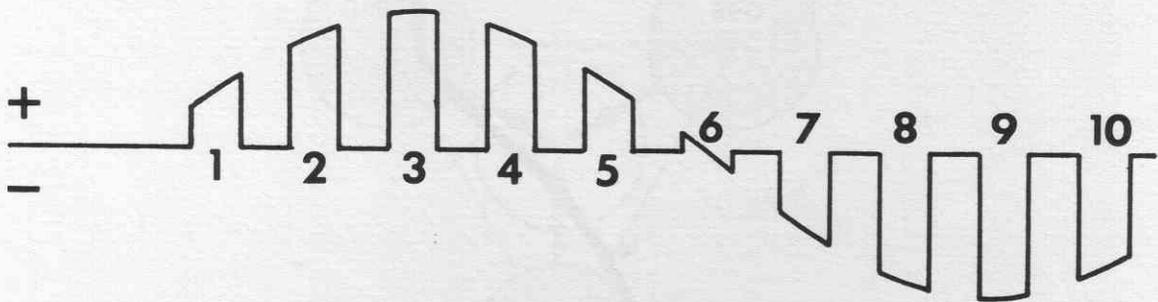

Figure 56. R-Y Amplifier Output as Seen on an Oscilloscope
3. Connect an oscilloscope of adequate bandwidth to the output of the R-Y amplifier. Set the oscilloscope sweep frequency to 15,750 Hz. A waveform similar to that shown in Figure 56 will be displayed on the oscilloscope.